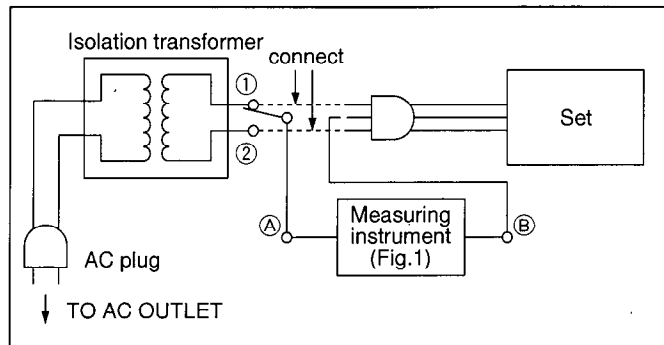

Fig. 2
2. Assemble the circuit as shown in Fig.2. Connect AC plug to AC outlet.
3. Connect (A) to ① according to Fig.2 and measure voltage.
4. Disconnect (A) from ① to ②. Measure voltage again.